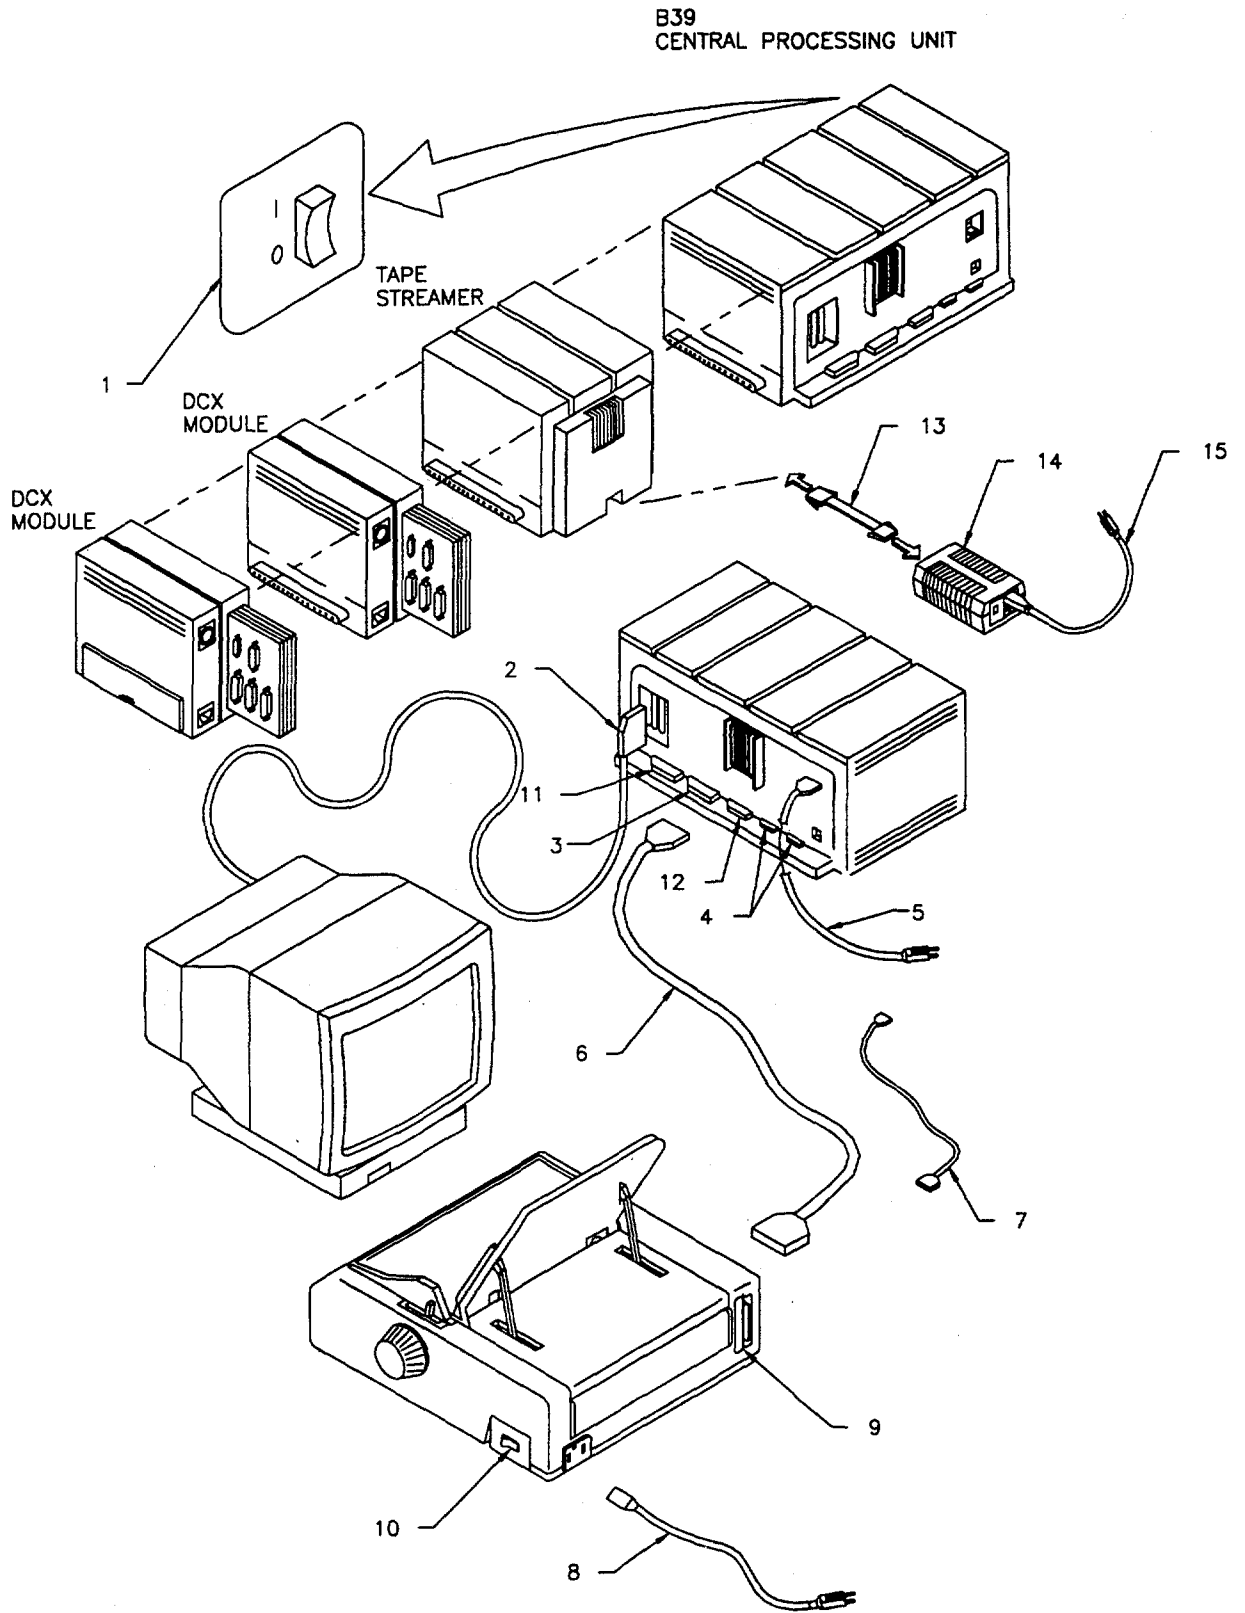

Figure 3-26. B39 Primary Monitor Console CPU Interconnection Diagram
- (1) Install new tape streamer module (3) by aligning modules bus connectors and carefully push units together.
- (2) When connectors are aligned and seated, lower latching lever (6). This locks modular units in place.
- (3) Connect the power module (14) ac power cord (15) to power source. (ref. figure 3-26)
- (4) Insert dc power cord (13) connector into rear of Tape Streamer Module. (ref. figure 3-26)
- (5) Press main power push button (1) to apply internal power to processor assembly.
(Figure 3-26).
- (1) Install Serial Interface Card.
- (2) Connect serial interface cable (6) to printer serial interface card connector (9).
- (3) Connect ac power cord (8) to printer assembly.
- (4) Press printer power switch (10) to on position.
- (5) Insure printer set-up parameters are correct. (ref. Appendix E pg.E-54)
**3-18. REPLACE PRINTER SERIAL INTERFACE CABLE. (Figure 3-26).**